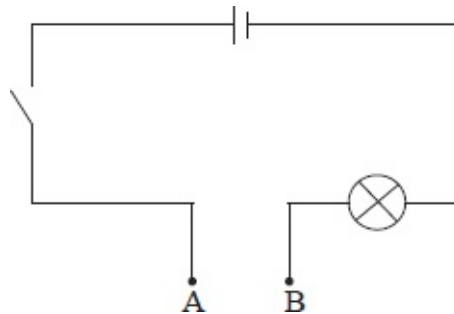

Fig. 10.17: Electrical conductivity
- Set up the apparatus as shown in figure 10.17.